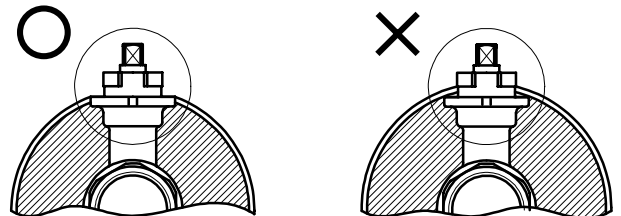

Figure 4. Terminal insulation
- 8) Do not apply heat insulation to the actuator and the yoke. Apply heat insulation only to shaded area shown in Fig. 4 if necessary.